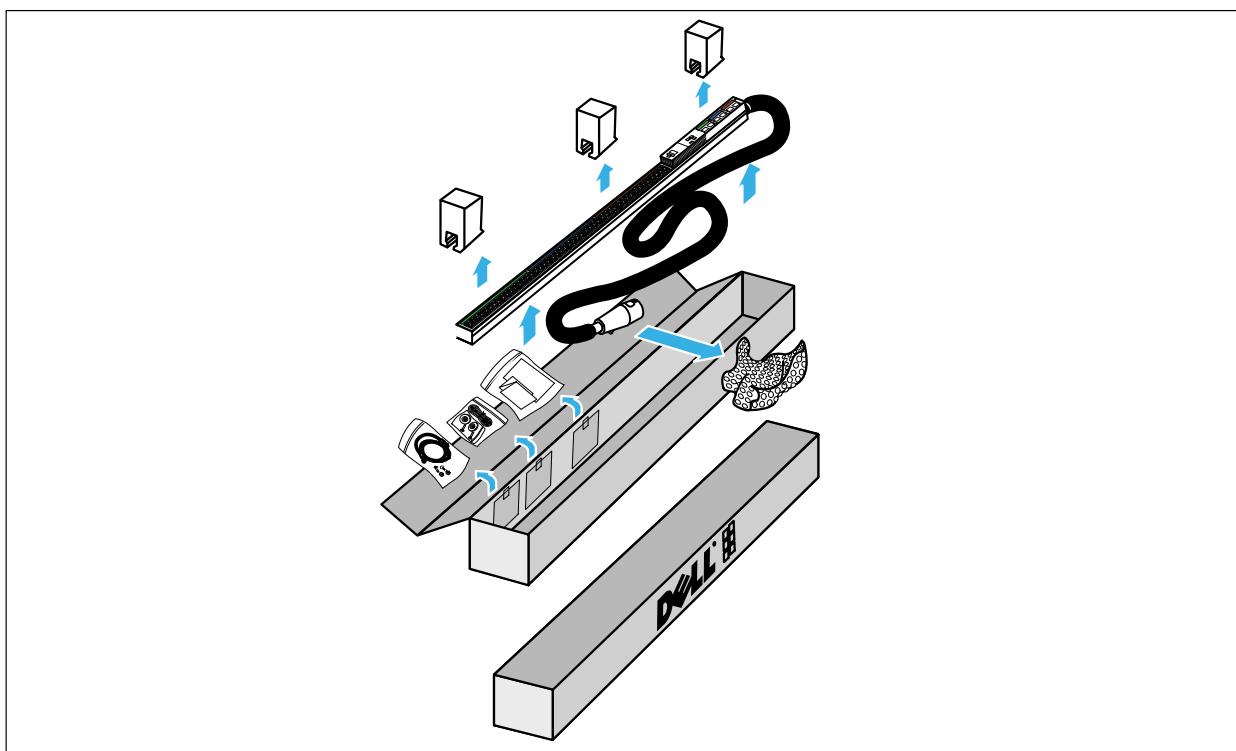

Figure 5. Unpacking the rPDU
- 1 Remove the top from the carton (see Figure 5).